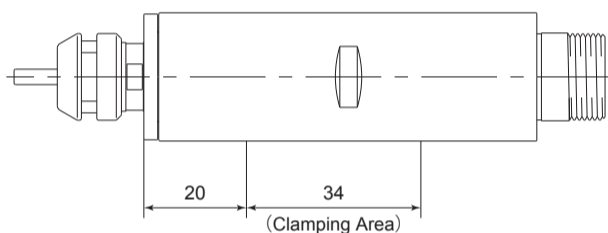

Fig. 7
- When mounting the spindle, refer to the Clamping Area etched on the spindle. ( Fig. 7)